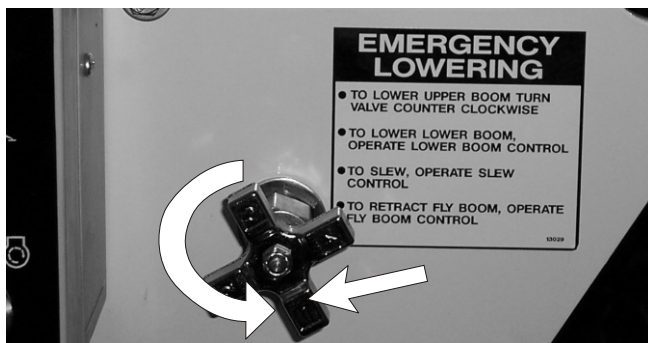

Figure 11.9 - Ground Emergency Bleed Down Valve
1. Open the emergency bleed down valve at the side of the column (see Figure 11.9) by turning it anti-clockwise.